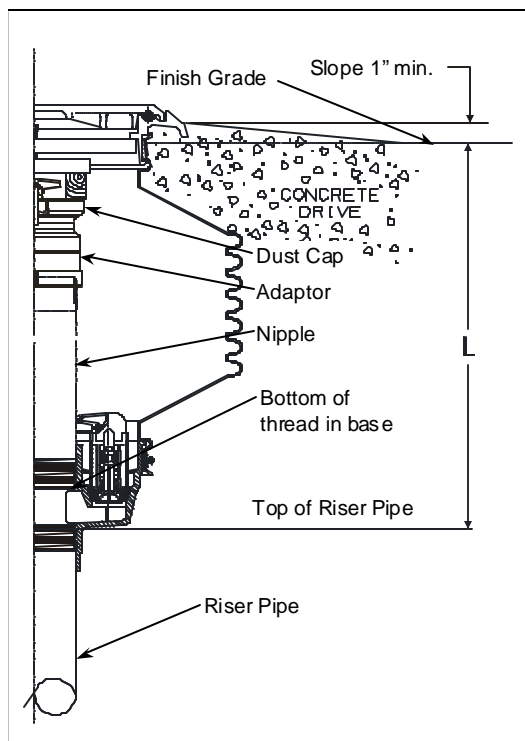

Figure 2
Step 7: (See Figure 2)
Step 10: (See Figure 2)
Before pouring concrete, place plastic over the cover and mounting ring protecting them from concrete splash. Double check that the unit is level and at proper grade height. Pour concrete per figure 2. Ramp or dome the concrete away from the mounting ring. There should be a minimum of 1" slope to finish grade. The concrete surface should start at the bottom edge of the watershed slots and tapered down to grade level.